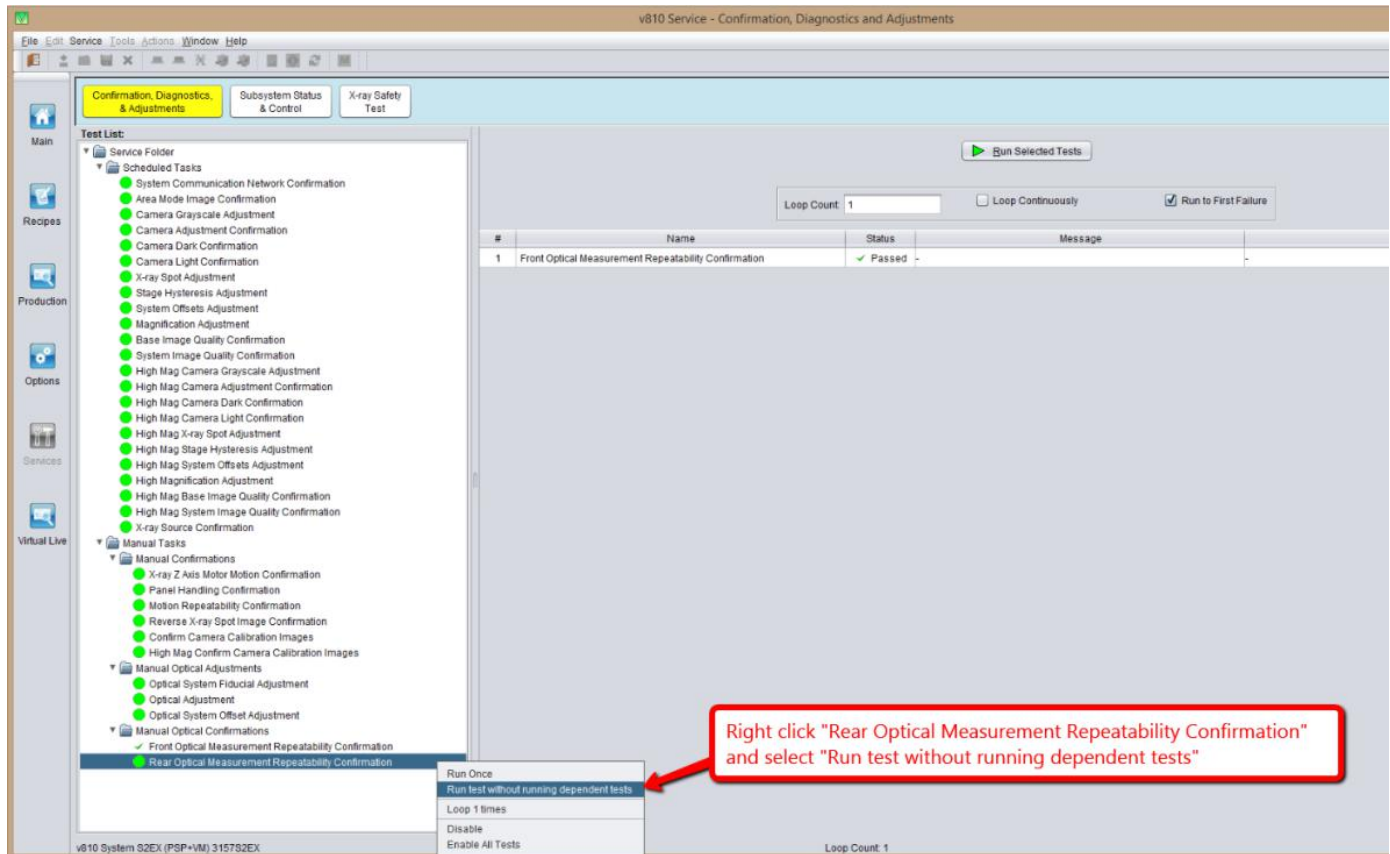

Figure 55 Repeatability test 50 micron
40. At **Confirmation, Diagnostics and Adjustment (CD&A)**, under the **Manual Optical Confirmation**, right click **Rear Optical Measurement Repeatability Confirmation** and select **Run test without dependent tests** as shown in the Figure 55 below.